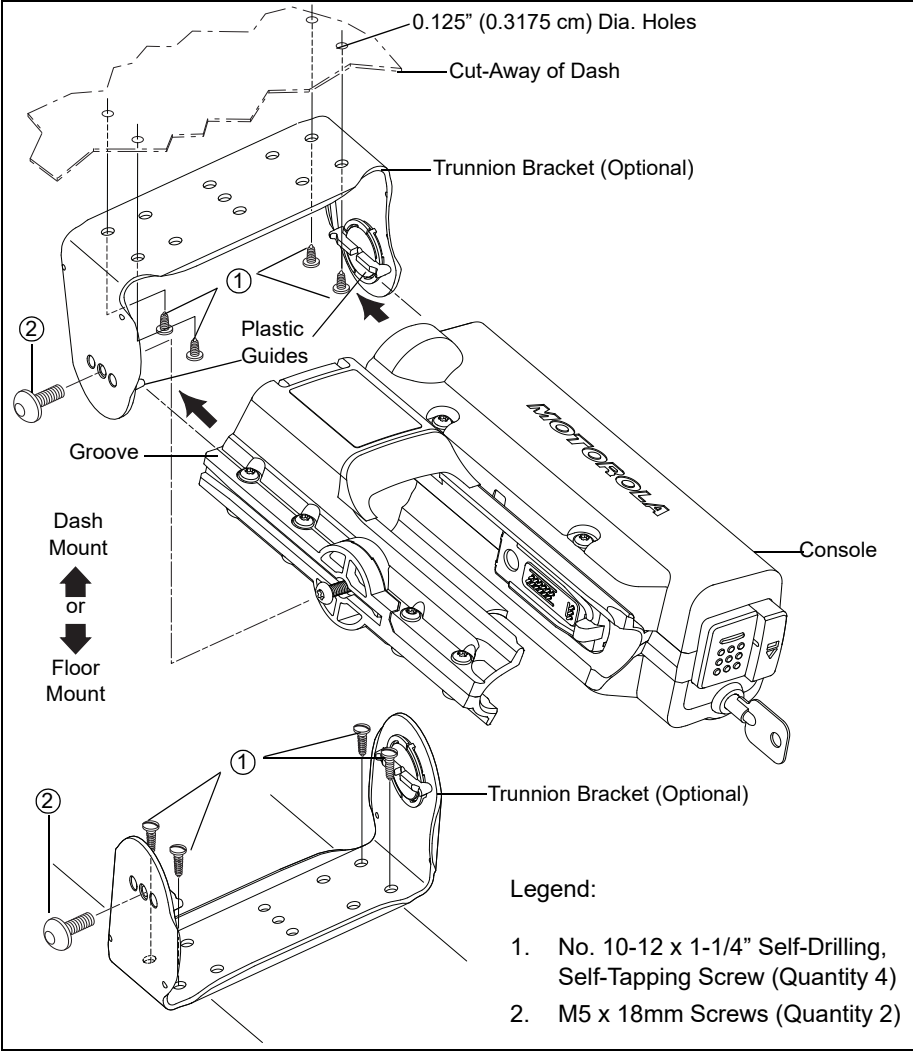

Figure 2: Console Installation Detail
Referring to Figure 2, install the console using the following procedure, or modify the procedure as necessary to conform to the vehicle type. Using the optional trunnion ("U") bracket as a template, drill the mounting holes and mount the bracket with the hardware supplied (see Figure 2).
2. Ensure that the plastic guides of the trunnion are aligned (horizontally) with the corresponding grooves of the console (see Figure 2). Slide the APX VA console into the plastic guides until it reaches the mechanical stop. Verify that the holes in the trunnion bracket are aligned with the holes on the APX VA.